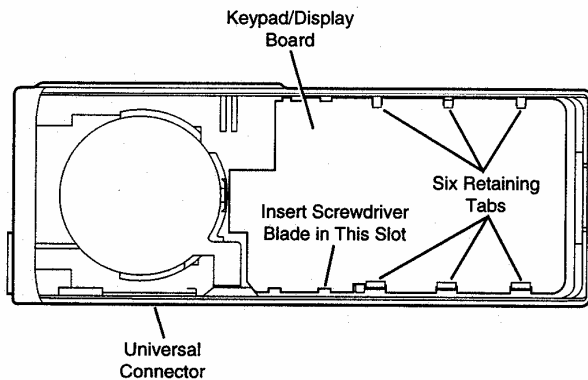

Figure 9
6. On front display model radios only, notice that the keypad/display board is secured to the front cover housing using six tabs, three small tabs on one side and three larger tabs on the universal connector side. Remove the keypad/display board by inserting a small flat-blade screwdriver in the circuit board slot provided (slot nearest the top retaining tab on the universal connector side of the radio, see figure 9). A slight prying action will release the keypad/display board. If applicable, remove the rubber keypad.